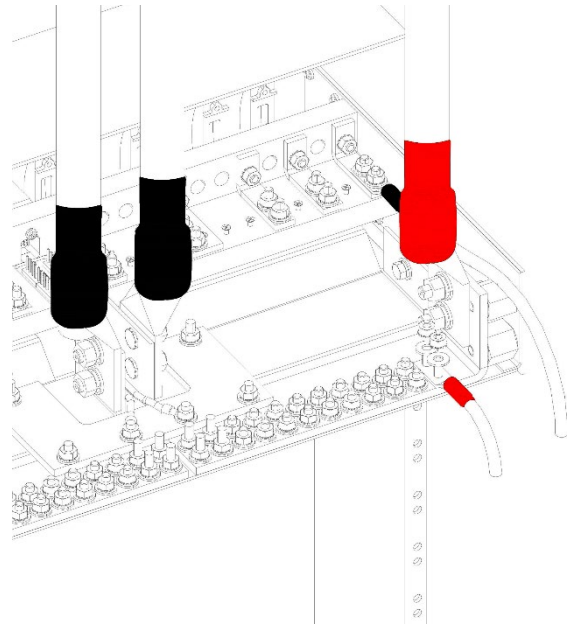

Fig. 10: Output lug connections
21. If required, lightly coat antioxidant on lugs and output BATT and RTN terminals and then connect lugs to terminals, as shown in Fig. 10. (NEC specifies only one lug and load at each output terminal.) Tighten nuts to no more than 50 in/lb. (5.6 N•m), max. Then connect other end of output wire to load.